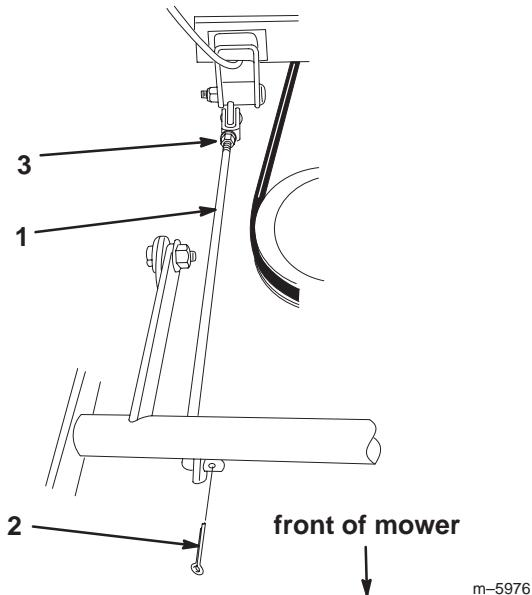

Figure 31
4. Remove the cotter pin at the front of the adjusting rod (Fig. 31).
5. Loosen the nut at the rear of the adjusting rod (Fig. 31).